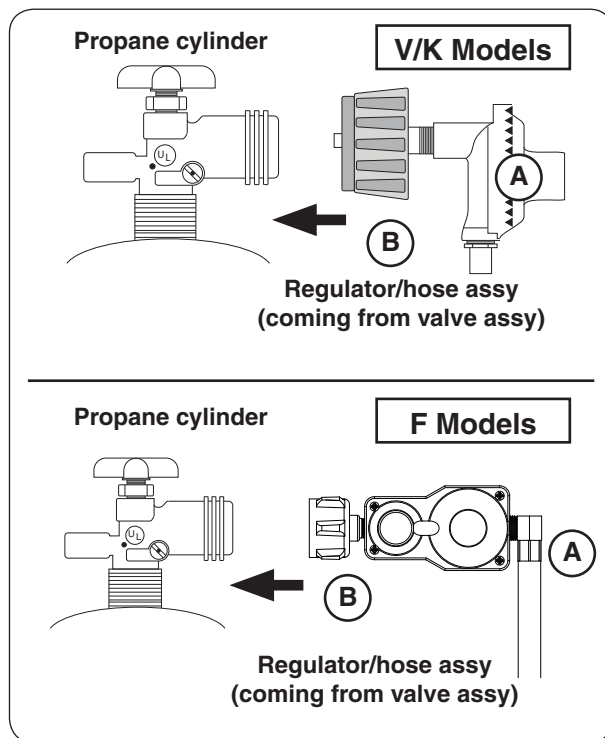

Fig. 23-1 Connecting to an L.P. cylinder
2. Attach the regulator end of the hose assembly to a propane cylinder (not included) and tighten (see Fig. 23-1).
3. Attach the regulator end of the hose assembly to a propane cylinder (not included) and tighten (see Fig. 23-1).